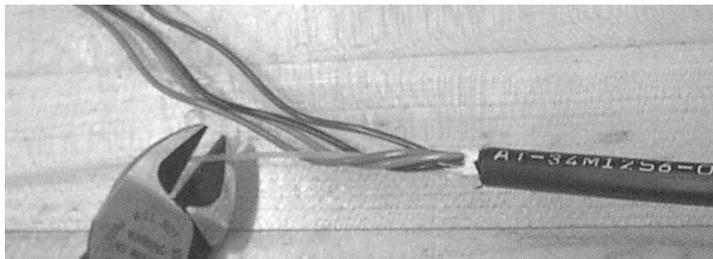

Figure 11 – Cut the central strength member to the required length.
4.12 Consult the splice closure instructions to determine the length of central strength member that is required for strain relief. Separate the central member from the tubes taking care not to kink or damage the tubes. Cut the central member to the required length (Figure 11)